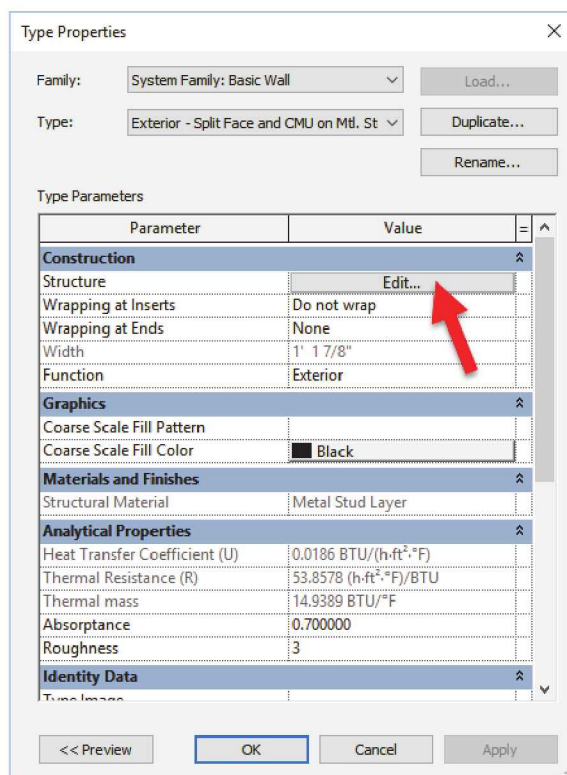

FIGURE 5-2.11 Type Properties
23. You should be in the *Type Properties* dialog box. Click the **Edit** button next to the *Structure* parameter (Figure 5-2.11).